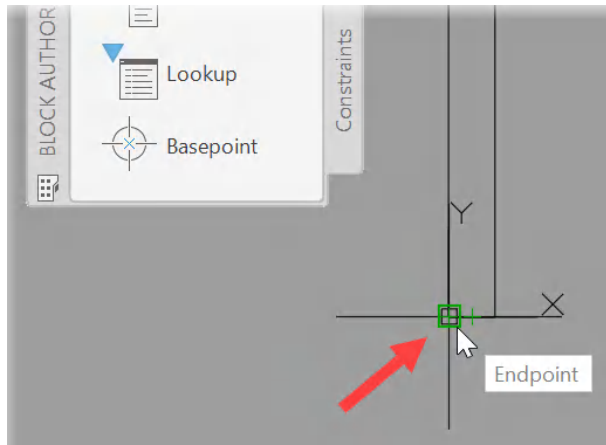

Figure 11.12: The Endpoint snap used as the first point of the mid between two points
5. Select **Mid Between 2 Points** (*M2P*). You will be prompted for **First point of mid**. Select the lower-left **Endpoint** snap on the rectangle, as shown in *Figure 11.12*.